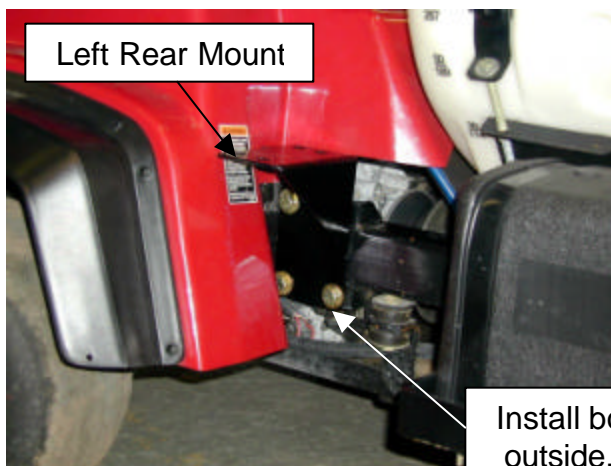

Figure 3
- 3) Install left and right rear mounts to vehicle frame. Each mount uses the (4) ROPS mount holes just aft of each front wheel fender. Attach mounts using (16) 7/16" flat washers, (8) 1/2-13 X 1 1/2" bolts, and (8) 1/2-13 nylock nuts. Hardware may be left at a snug fit, leaving loose enough to adjust during installation of cab. **If this is done, be sure hardware is tightened after cab is installed.** See Figures 3 and 4.